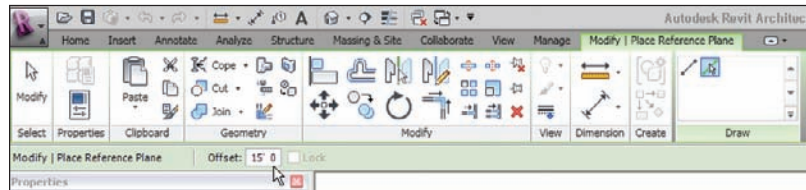

FIGURE 2.4 Offsetting a reference plane
6. Press Esc, and then click the Ref Plane button again. Now, on the Draw panel, click the Pick Lines icon, as shown in Figure 2.4.
7. Set the Offset to 15'-0" (remember, you can just type 15), as in Figure 2.4.